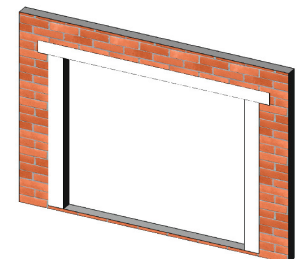

Figure 8:
- At the Head run the flashing paper long enough to extend at least 3" past the jamb flashing and wrap around the Header at least 3" into the opening (Figure 8).